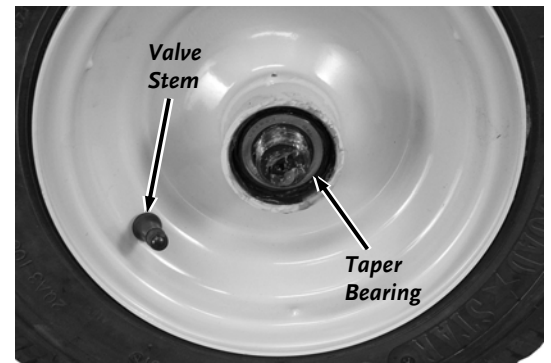

Figure 42
5. Pull the Wheel assembly and Taper Bearing from The Axle (**Figure 42**).